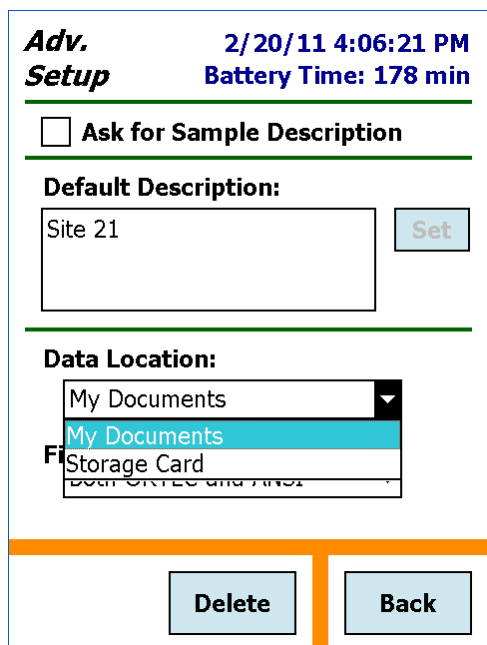

Figure 69. Select the Data Location.
This field (Fig. 69) allows you to choose the storage device or location for the spectrum storage. The location you choose becomes the default location on the spectrum display dialog. Tap the down arrow to open a list of valid locations, which for the Detective are (1) the SD card, which is indicated as **Storage Card/Data**; and (2) the computer’s **My Documents** folder. If the SD card is not present in its slot, it will not be on the list. Tap the location you want.